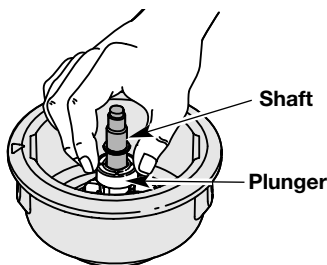

Fig. 29
5. Clean the shaft and the inner surface of the outer spool. To clean the shaft underneath the plunger, press down on the plunger (Fig. 29). Remove any dirt or debris from the shaft.